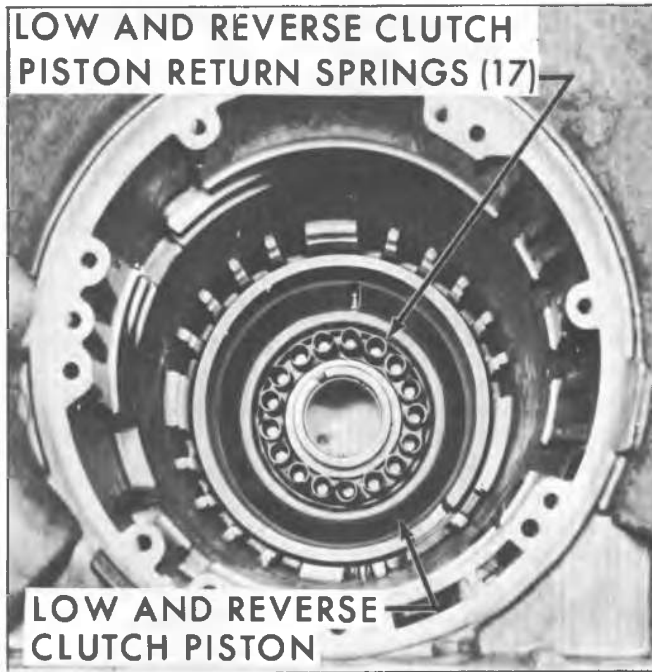

Fig. 7A-49B--Low and Reverse Clutch Piston Springs and Piston
22. Remove seventeen (17) piston springs from piston (fig. 7A-49B).